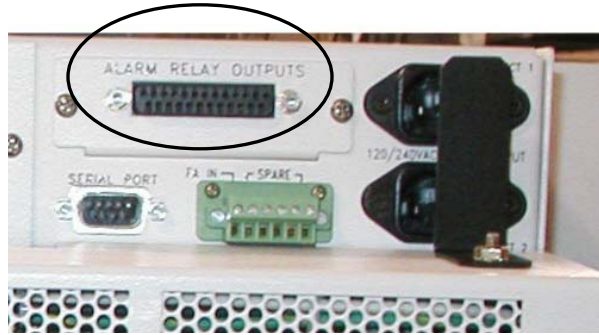

Fig. 1-7: DB25 Location
A. Fabricate an alarm connection cable using a standard male DB25 connector and Table 1-3. Connect plant minor and major alarms to the site alarm system as required. See Fig. 1-7.